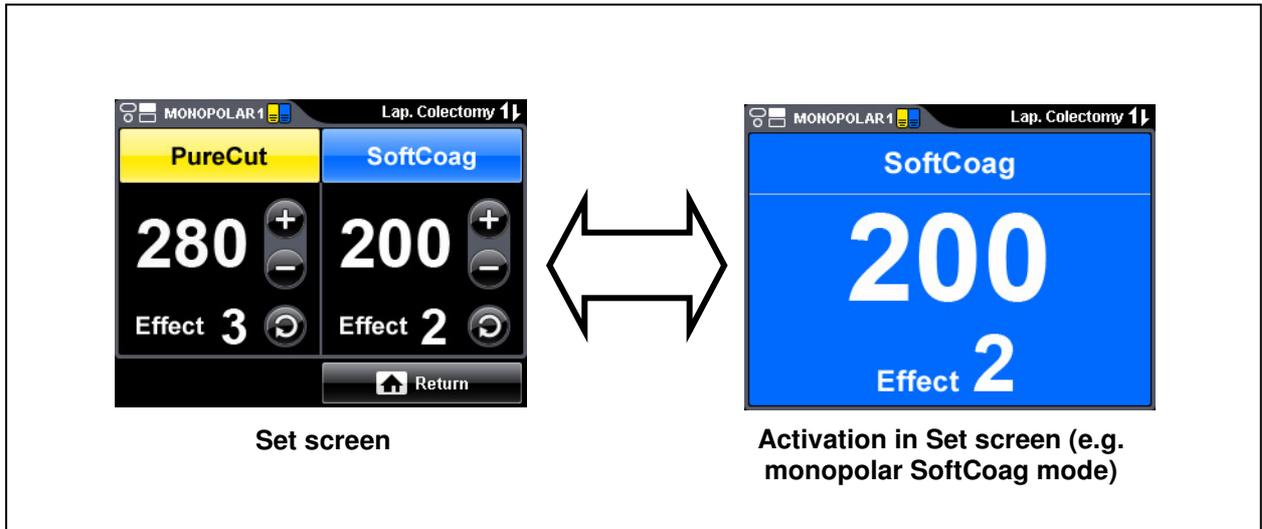

Figure 5.11
- If the electro-surgical generator was activated from the “Set screen”, the background color will change according to the used mode (see figure 5.11).